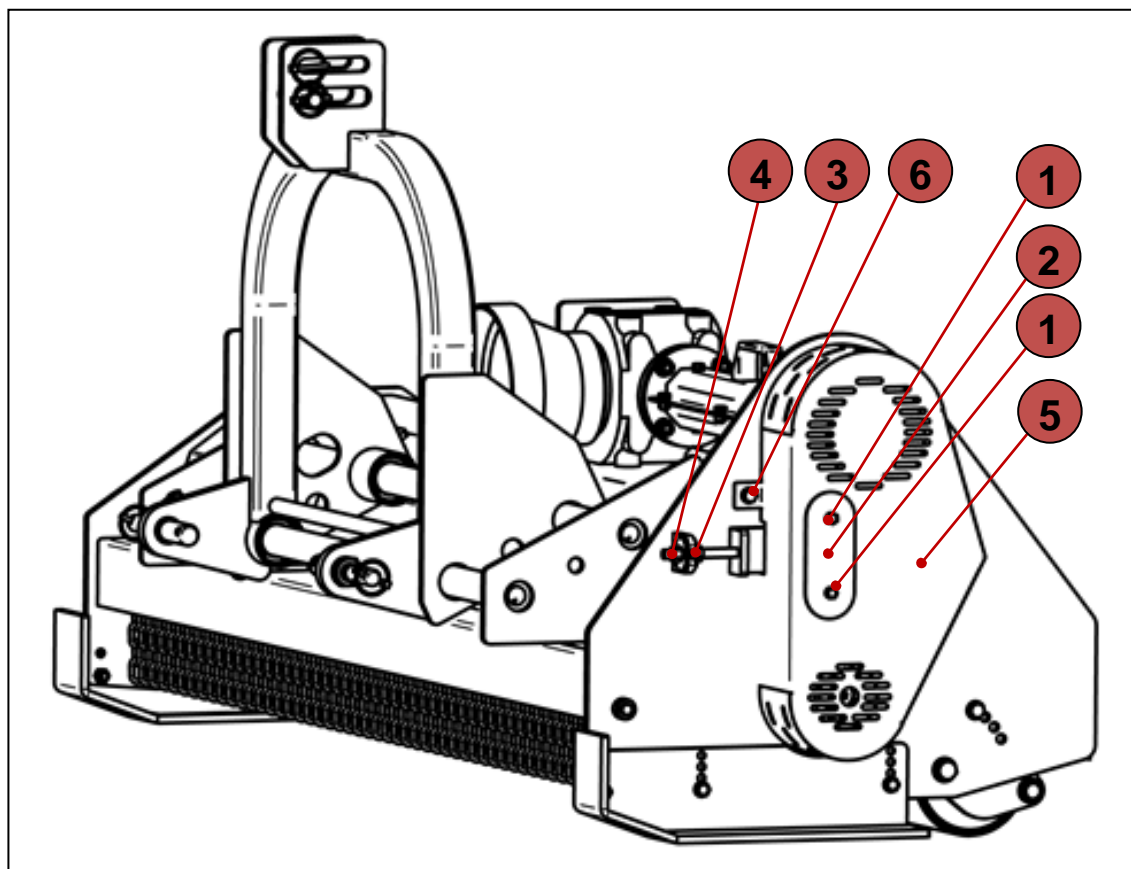

Figure 5
- Lubricate the machine in accordance with the instructions of the lubrication scheme (Fig. 5),